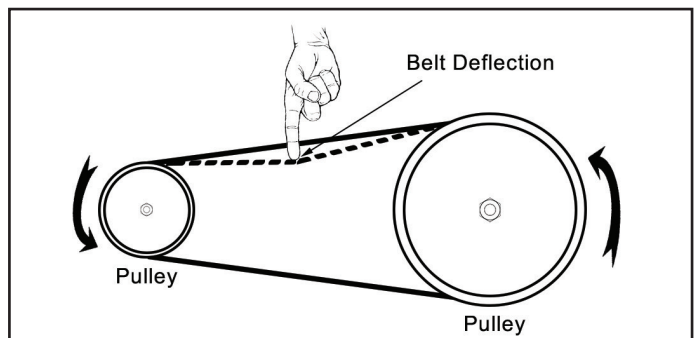

FIG. 22
4. Check the drive belt tension with finger/thumb pressure. The drive belt should not deflect more than 3/8" to 1/2" in the center. FIG. 22.